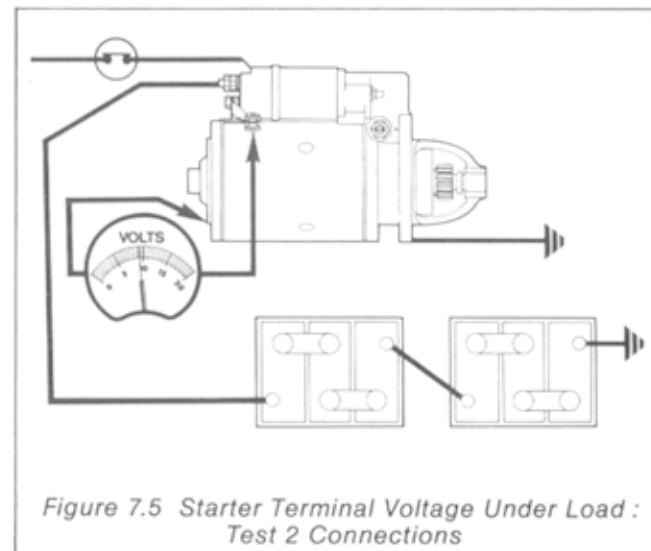

Figure 7.5 Starter Terminal Voltage Under Load : Test 2 Connections
7.13 Connect the voltmeter between the starter input terminal and earth (commutator end bracket) as shown in Figure 7.5 and operate the starting switch. The voltage reading should not be more than 0.5V below the voltage measured across the battery terminals (Test 1). If the voltage reading is within this limit the starter circuit is satisfactory. If the voltage reading is low (battery voltage correct) it indicates a high resistance in the cable or at the starter contacts. This could be bad or dirty connections.